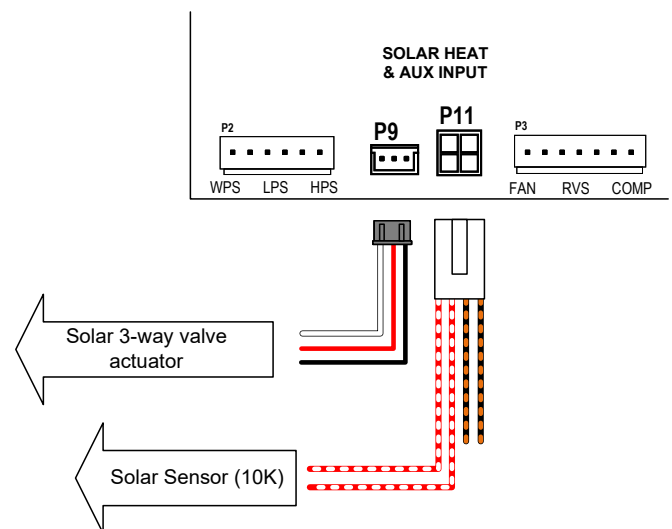

Figure 160. Solar Heat & Auxiliary Input
5. Inside the control box of the heater, connect the wires for the "Solar sensor" to the control board terminal labeled as "SOLAR" [P11] using the harness adapter labeled as "Solar Temperature Sensor / Auxiliary Safety Input" provided in the accessories bag. Connect the Red with White wires for a 10K temperature sensor and use the terminal [P9] to connect a standard 3-way valve actuator for the "Solar 3-way valve". Refer to Figure 160 for details.